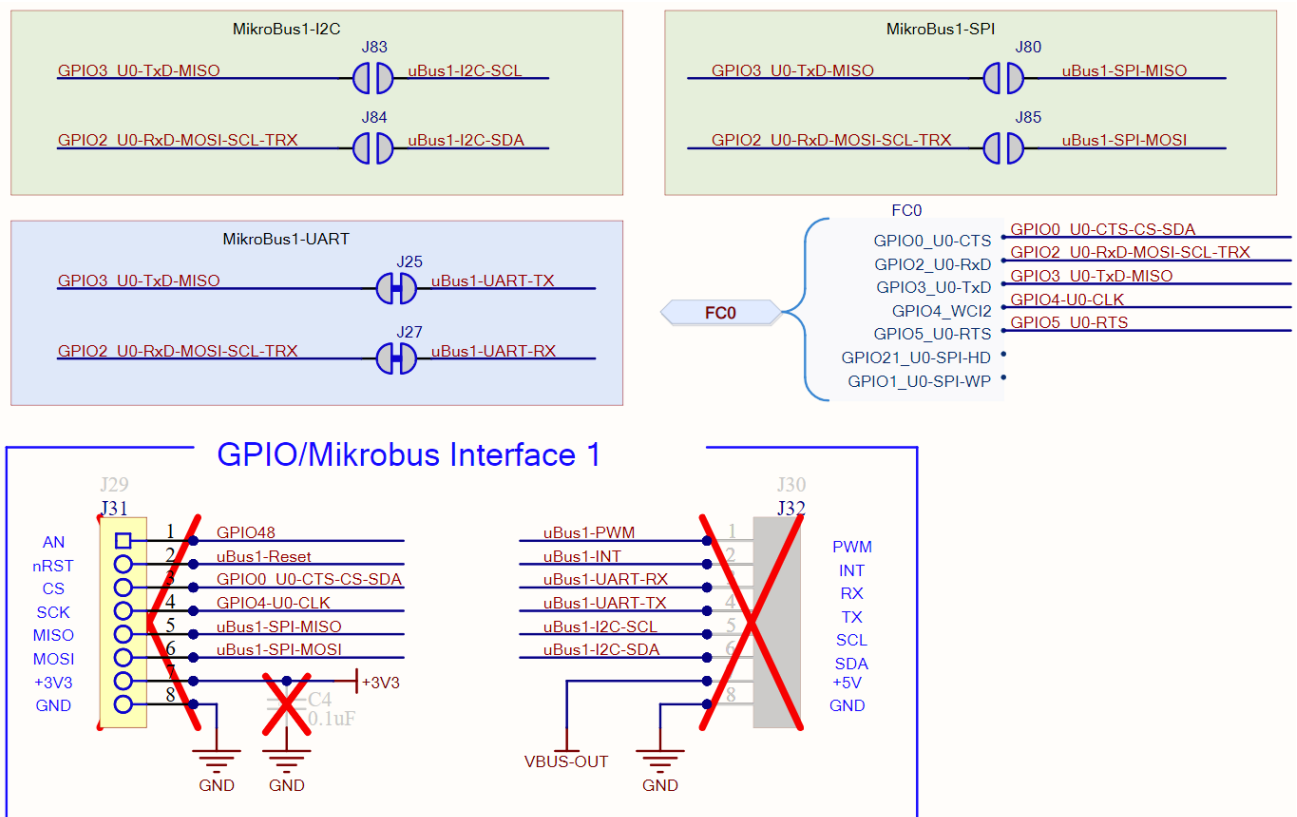

Figure 22: mikroBUS 1 slot signals and Jumper configuration
- To enable I2C or SPI, adjust the state of jumpers **J83** and **J84** for I2C, or **J80** and **J85** for SPI, as shown in Figure 22. Also, toggle jumpers **J25** and **J27** to disable UART.
Figure 22 shows the connection of mikroBUS 1 to the Flexcomm 0 interface.